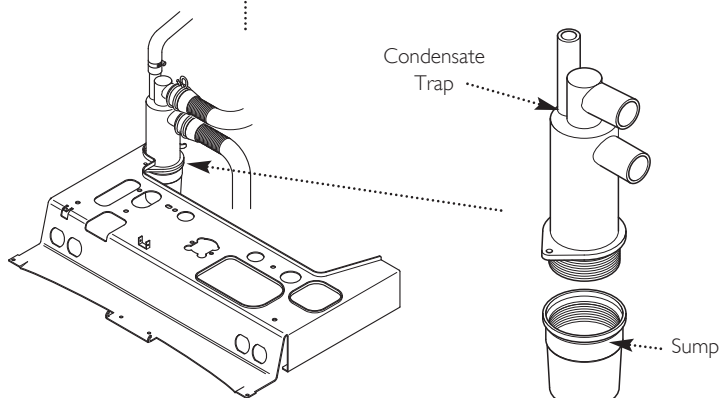

Fig. 61
5. Unscrew the sump from the bottom of the condensate trap assembly (Fig. 61) and remove any deposits from the sump and trap. Clean as necessary and replace the sump.